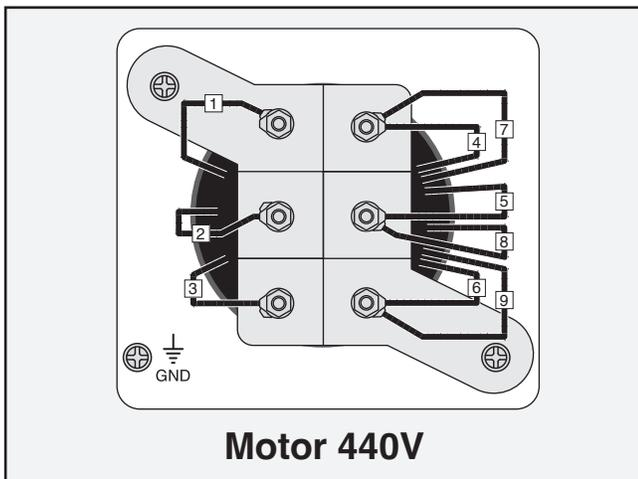

Figure 20. Motor wired for 440V operation.
20. Connect numbered motor wires to terminals shown in **Figure 20**.